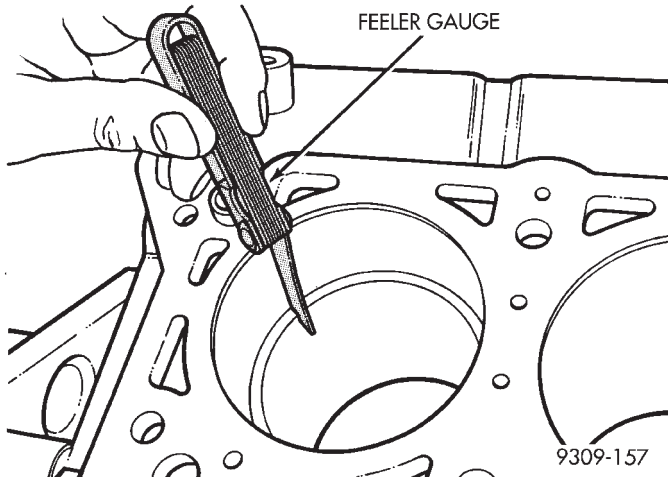

Fig. 4 Piston Ring Gap
(1) Wipe cylinder bore clean. Insert ring and push down with piston to ensure it is square in bore. The ring gap measurement must be made with the ring positioning at least 12 mm (0.50 inch) from bottom of cylinder bore. Check gap with feeler gauge (Fig. 4). Refer to specification in Piston Ring Specification Chart.